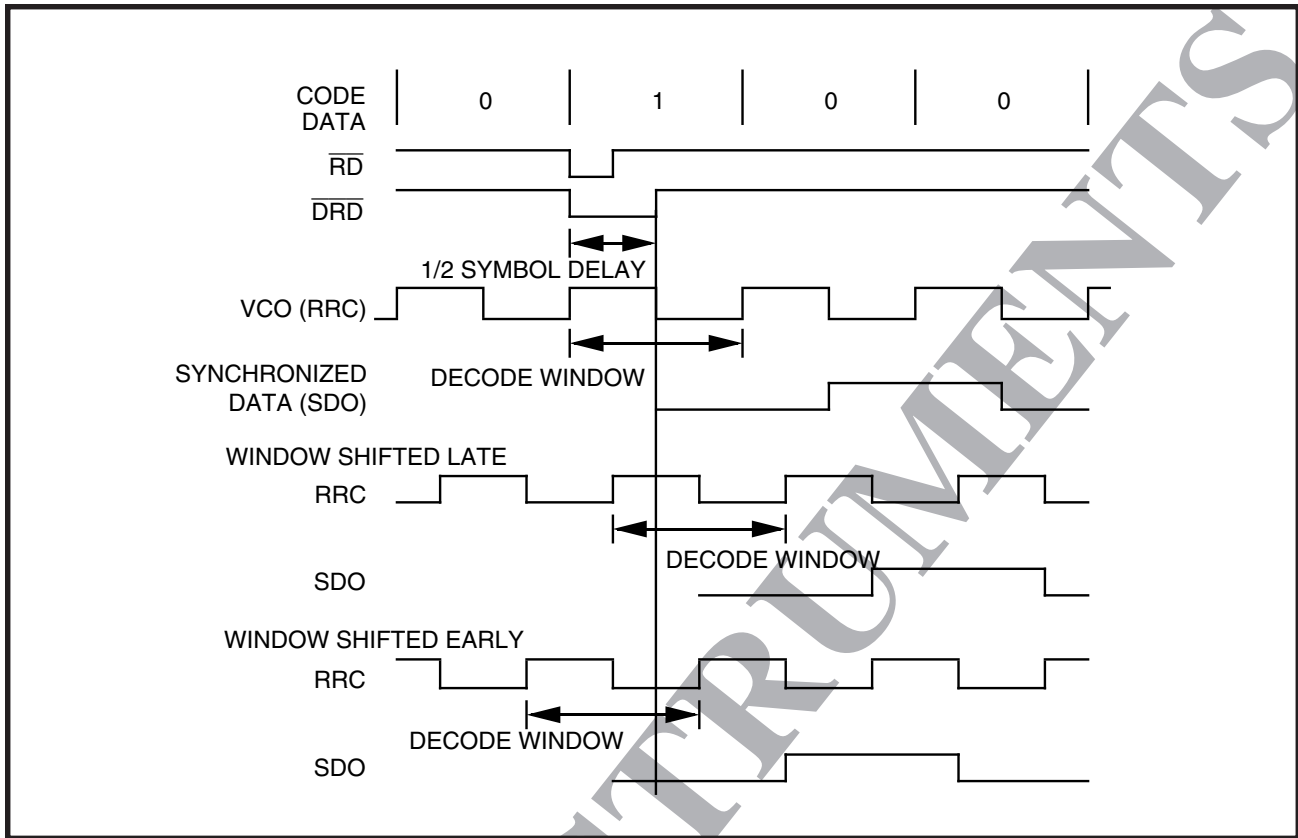

FIGURE 6: Read Data Synchronization Waveforms
The data synchronizer utilizes a fully integrated fast acquisition PLL to accurately develop the decode window. Read gate (RG) initiates the PLL locking sequence and selects the PLL reference input; a high level (read mode) selects the internal RD input and a low level selects the reference clock. In the read mode the falling edge of $\overline{\text{DRD}}$ enables the phase detector while the rising edge is phase compared to the rising edge of the VCO reference (VCOR). $\overline{\text{DRD}}$ is a 1/2 symbol wide (TVCO) pulse whose leading edge is defined by the falling edge of RD. A decode window is developed from the VCOR clock. Read data synchronization waveforms are shown in Figure 6. Bit 5 of register 34 controls the input to the data synchronizer. If bit 5 = 1 then RD is the input to the synchronizer instead of $\overline{\text{DRD}}$. This mode can have advantages when the data contains consecutive ones. If this is the case and two of these pulses are shifted towards one another, the $\overline{\text{DRD}}$ one shot may mask the second pulse. For normal operation bit 5 of Register 34 should be set low.
Window shift early and window shift late waveforms are shown in Figure 6. The window shift magnitude is set as a percentage of the full decode window, in 2.4% steps. This results in a window shift capability of $\pm 36\%$. The tolerance of the window shift magnitude is $\pm 20\%$. Window shift should be set during idle mode.